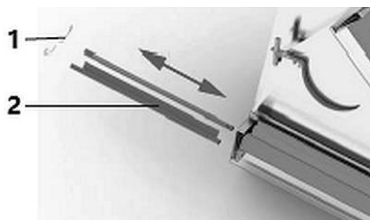

Fig. 9
- loosen up the springs (1, Fig. 9) on the bottom rollers;
- remove the gaskets (2) from their seats;